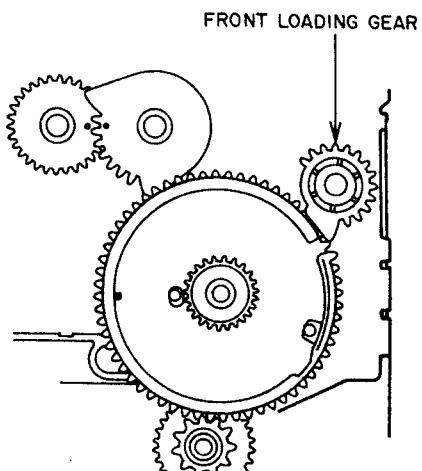
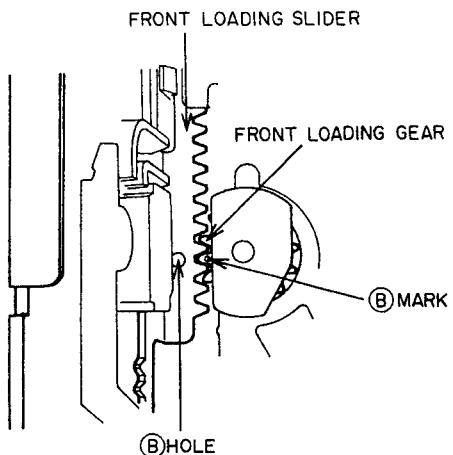

Fig. 3-10
Fig. 3-11
- 3) Attach the FRONT LOADING GEAR as shown in Fig. 3-10 and align the ⑧ mark on the FRONT LOADING GEAR with the ⑧ hole of the FRONT LOADING SLIDER as shown in Fig. 3-11.